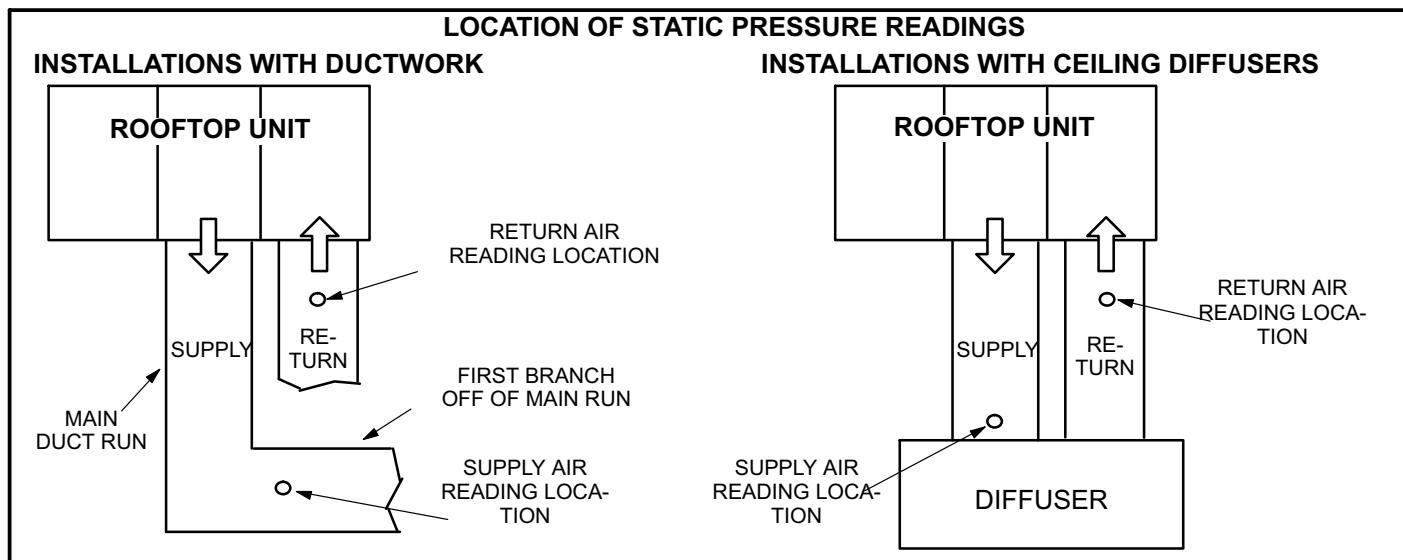

FIGURE 11
- 2- With all access panels in place, measure static pressure external to unit (from supply to return). Blower performance data is based on static pressure readings taken in locations shown in figure 11.